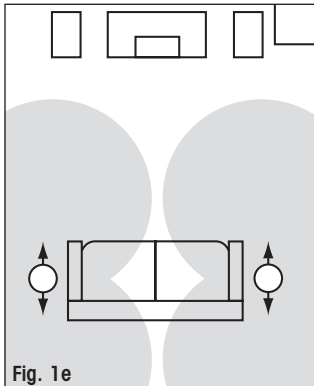

Fig. 1e
7.1 Surround + Rear Placement Using Two Speakers (Fig. 1e)